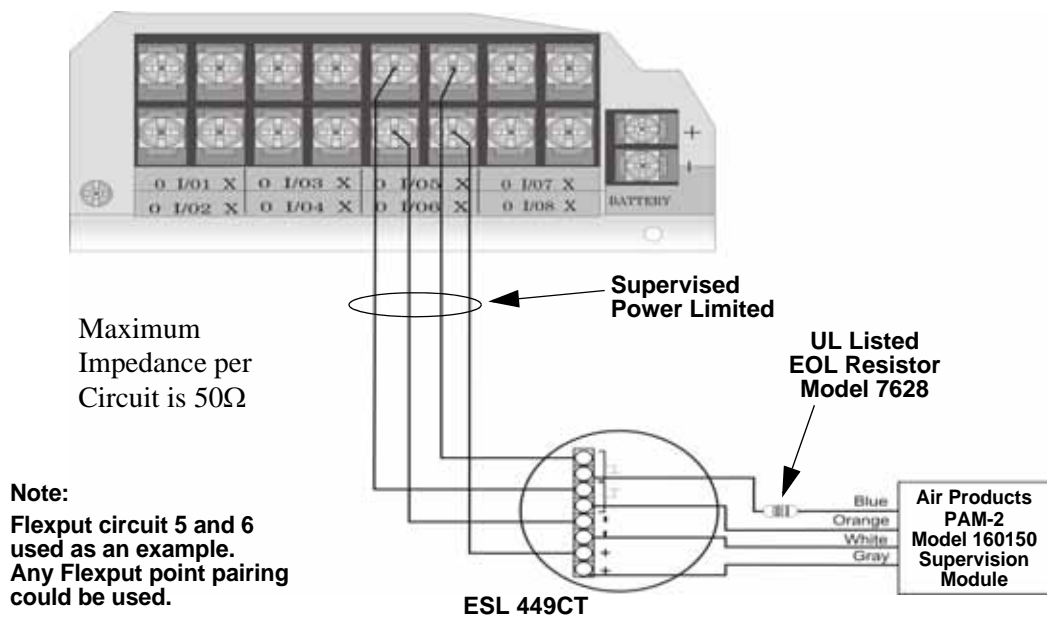
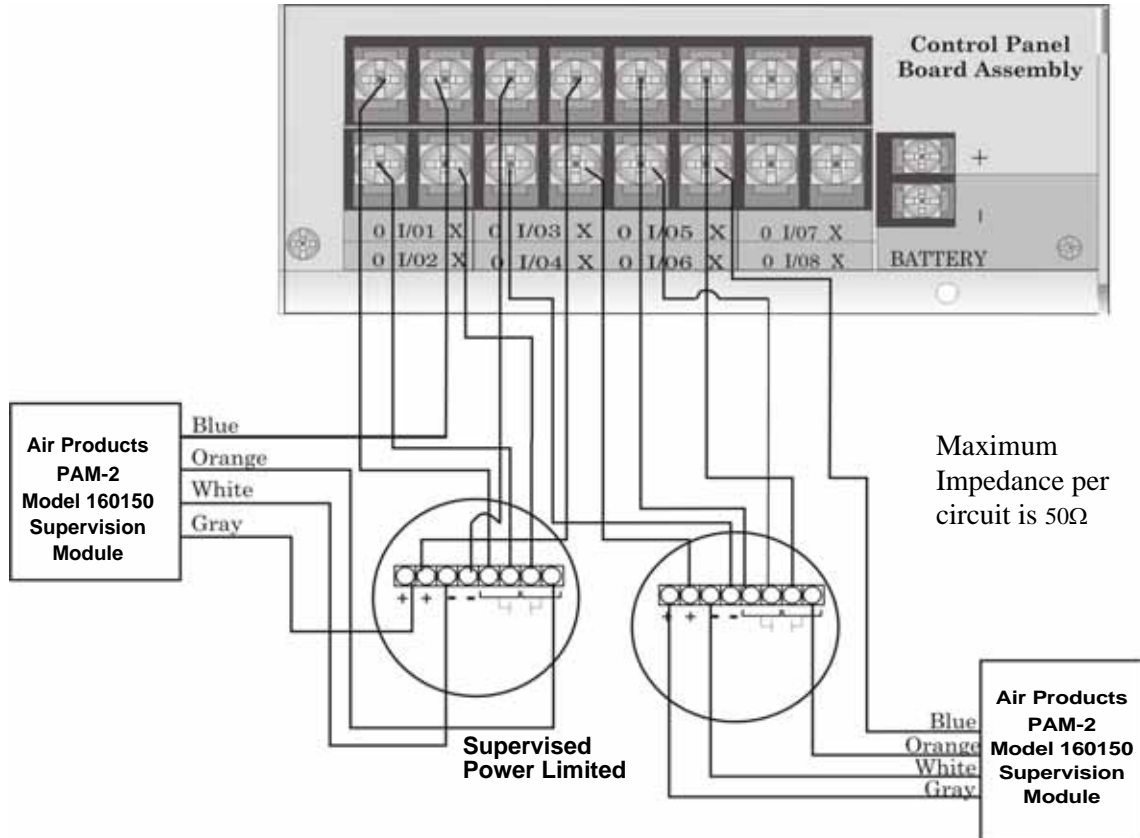

Figure 4-37 Class B 4-Wire Smoke Detector Connections
Figure 4-38 Class A 4-Wire Smoke Detector Connections
Any compatible UL listed four-wire smoke detector can be used with the control panel (see Appendix A for list of compatible smoke detectors). Figure 4-37 and Figure 4-38 illustrate how to connect a UL listed four-wire detector to the control panel.
Figure 4-37 illustrates how to install a 4-wire Class B smoke detector.
2. Each Class B loop input is paired with a unique power source as shown in Figure 4-37.
Note: In programming any point that uses multiple Flexput circuits, the lowest Flexput circuit number is used to refer to the circuit pair. For example, Figure 4-37 uses both Flexput circuit 5 and 6, so in programming it would be referred to as point 5.
Figure 4-38 illustrates how to install 4-wire Class A detectors.
2. Smoke power is supplied to each Class A loop as shown in Figure 4-38.
Note: In programming any point that uses multiple Flexput circuits are always referred to as the lowest Flexput circuit number used. For example, Figure 4-38 uses Flexput circuits 1, 2, 3 together and 4, 5, 6 together. In programming (1, 2, 3) would be referred to as point 1, and (4, 5, 6) would be referred to as point 4.